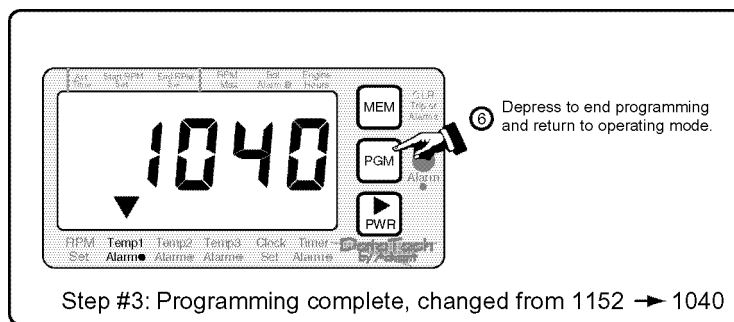

Figure 5c
- (Fig 5c) ⑥
- (Fig 5c) ⑥ Depress  to accept the new setting and exit memory programming
- (Fig 5c) ⑥ Depress  to accept the new setting and exit programming